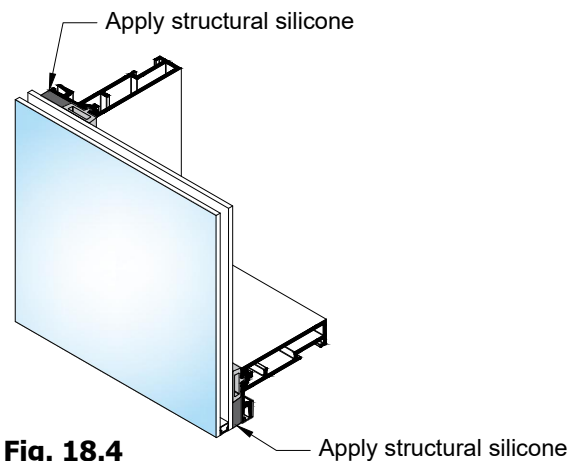

Fig. 18.4
7. Apply structural silicone into the joint and tool so silicone completely fills the void. Remove masking tape before silicone skins over. See **Fig. 18.4**